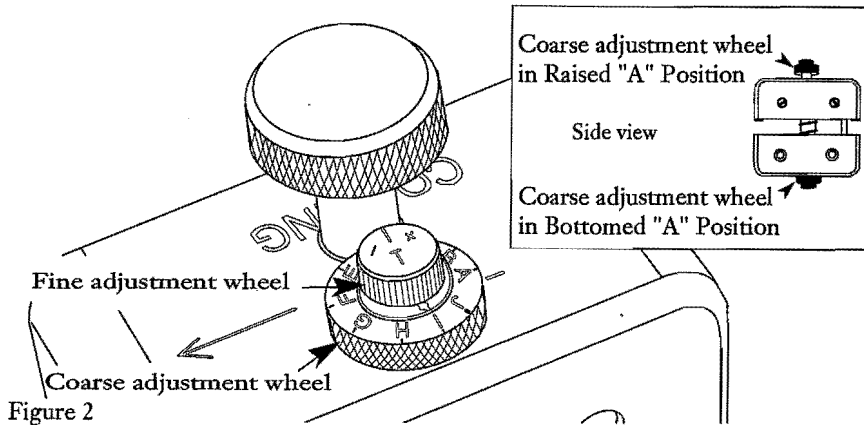

Figure 2
1.3 The UAT3 tool is designed to give infinite blade height adjustment to accommodate a range of both tube diameter and wall thickness. This is accomplished without the need for a set-up gauge through the use of both coarse and fine adjustment wheels on both halves of the tool (Figure 2).
NOTE: The coarse blade adjustment wheels have over 360° of rotation, which results in both a “Raised A position” (a backed-out, shallow blade position) and a “Bottomed A position” (all the way in, or deepest cutting position) (Figure 2, inset).